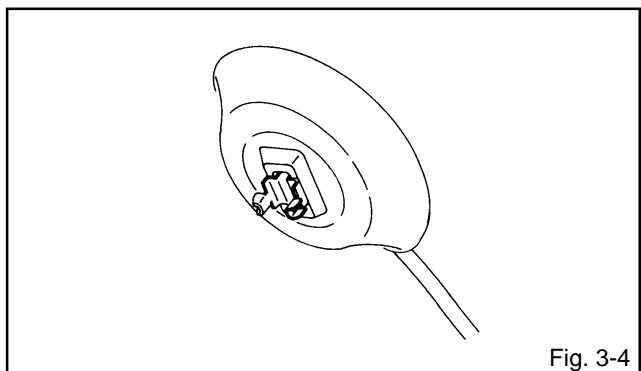

Fig. 3-4
3. Turn over the Rubber Cap. (**Refer to Fig. 3-4.**)